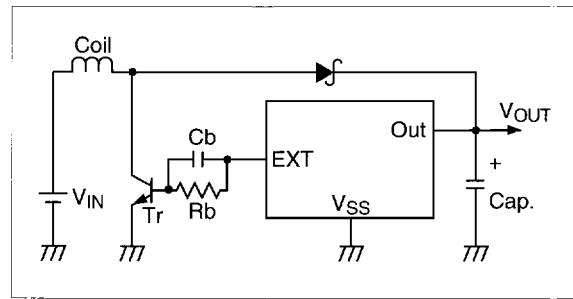

Figure 2. TC182BXX
- 2B: External (see Fig. 2)
**TC182B30:**  $V_{OUT} = 3V$ ,  $V_{IN} = 2V$ ,  $V_{SS} = 0V$ ,  $I_{OUT} = 10mA$ ,  $T_A = 25^\circ C$ , unless otherwise specified. (See Fig. 2)
**TC182B50:**  $V_{OUT} = 5V$ ,  $V_{IN} = 3V$ ,  $V_{SS} = 0V$ ,  $I_{OUT} = 10mA$ ,  $T_A = 25^\circ C$ , unless otherwise specified. (See Fig. 2)